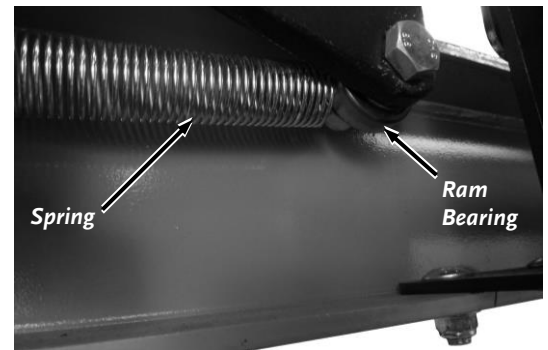

Figure 36
1. Pull out the Ram and slide both return Spring ends from the Ram Bearing hardware (**Figure 36**).